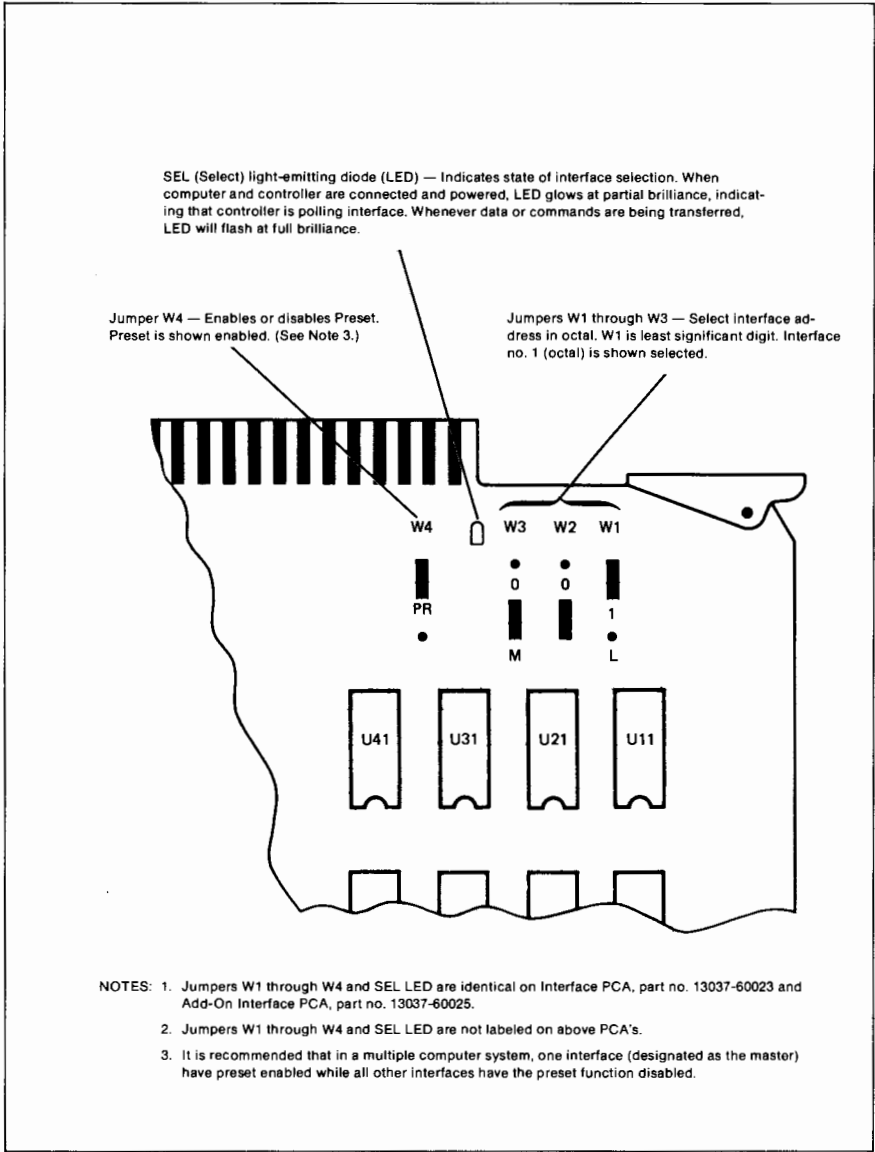

Figure 2-2. Interface PCA Jumper Locations
- A. Interface Address Jumpers -- See figure 2-2 for interface address jumper setting.
- B. Preset Jumper -- See figure 2-2 for W4 PR Enable/Disable position.